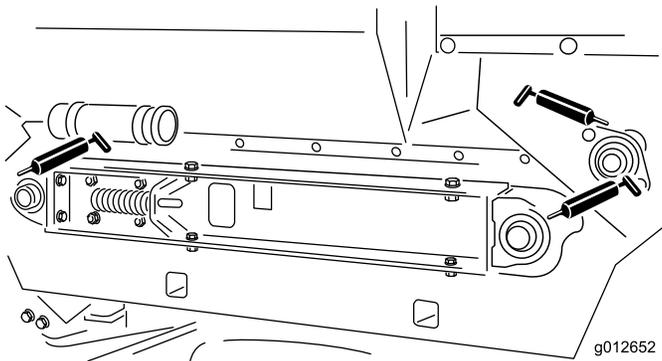
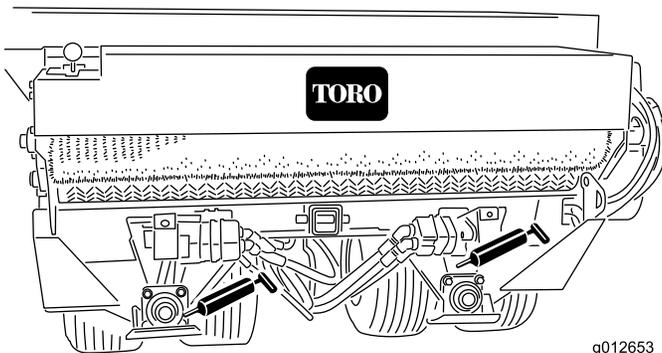

Figure 12
Figure 13
The grease fitting locations and quantities are: Roller shaft bearings (4) (Figure 12), Brush shaft bearing (1) (Figure 12), Pivot bearings (4) (Figure 13) and Wheel bearings (4) (Figure 13).